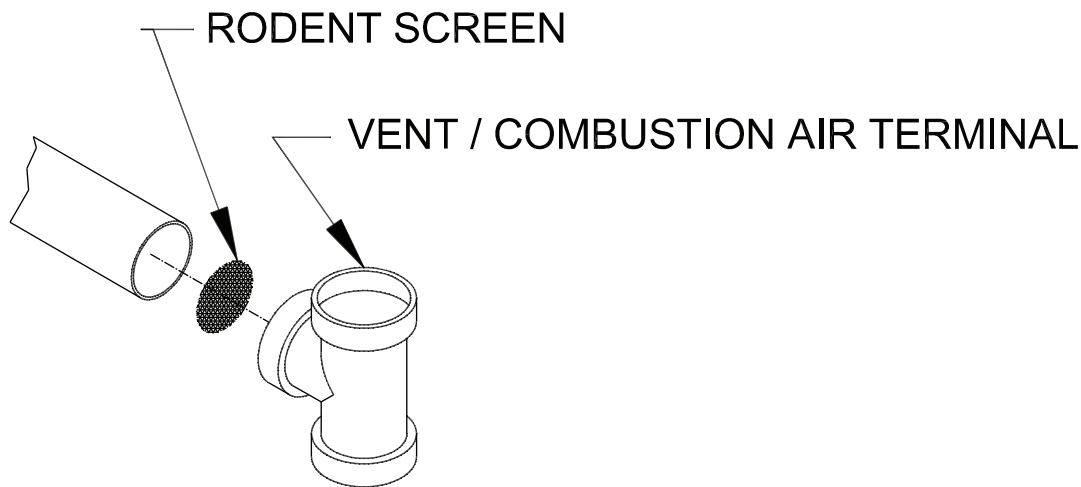

FIGURE 1.19: INSTALLATION OF STANDARD HORIZONTAL TERMINALS
- The run of the Tee must be vertical. (Figure 1.19).